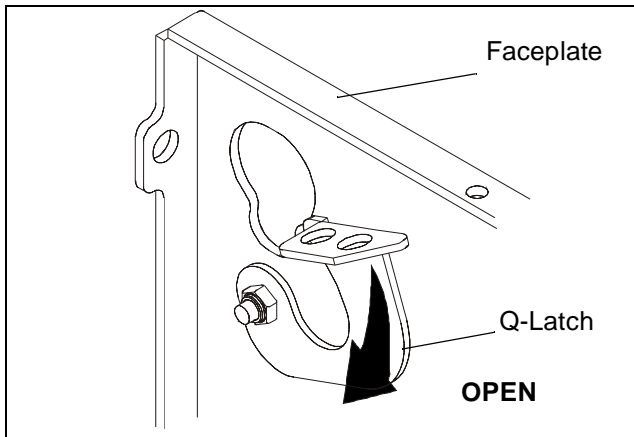

Figure 6: Open Q-Latch
1. Rotate Q-Latch to the OPEN position (see Figure 6).